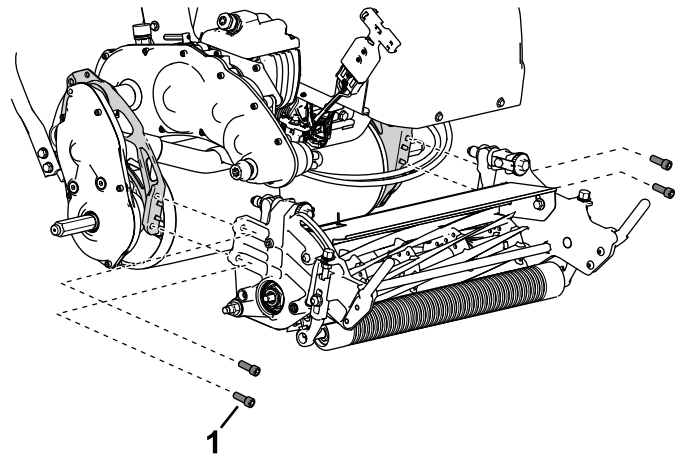

Figure 7
- A. Use 4 socket-head screws to install the cutting unit to the machine (Figure 7).